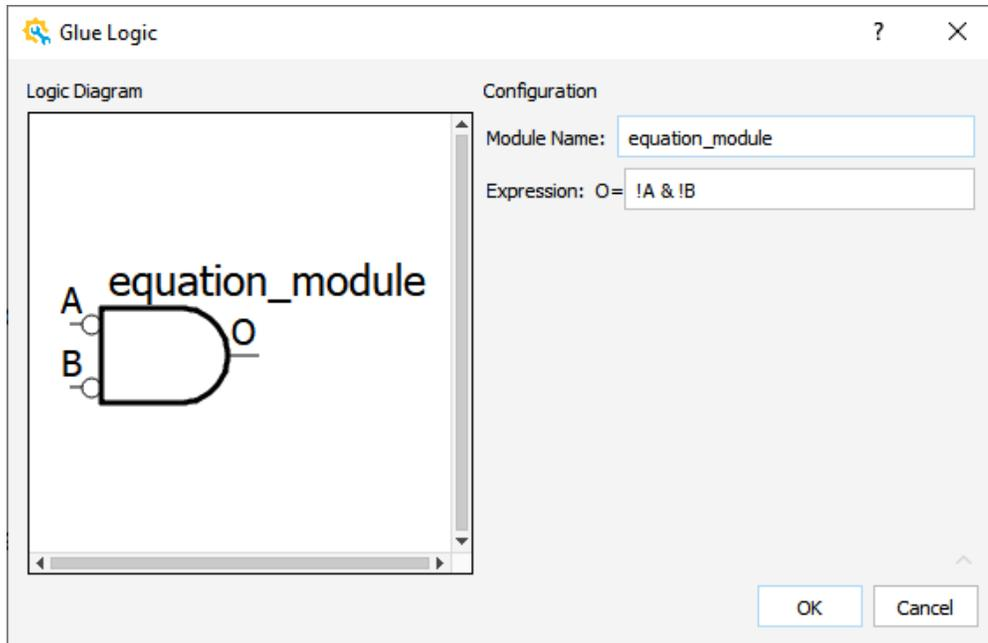

Figure 2.50. Glue Logic Wizard for Equation Module
1. From the IP Catalog, select the **equation** module. Double-click the equation module, or drag and drop the equation module to the Schematic view. A Glue Logic wizard (Figure 2.50) pops up.